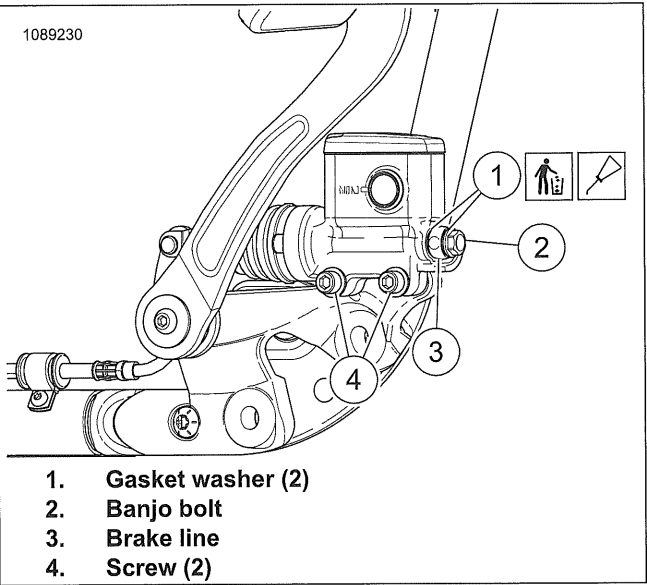

Figure 3-42. Rear Master Cylinder - Front View: (exhaust remove for clarity)
- 3. See Figure 3-42. Remove banjo bolt (2) and two gasket washers (1) to disconnect fitting of hydraulic brake line from master cylinder. Discard washers.
- 4. Remove screws (4).
6. See Figure 3-42. Install screws (4). Tighten.